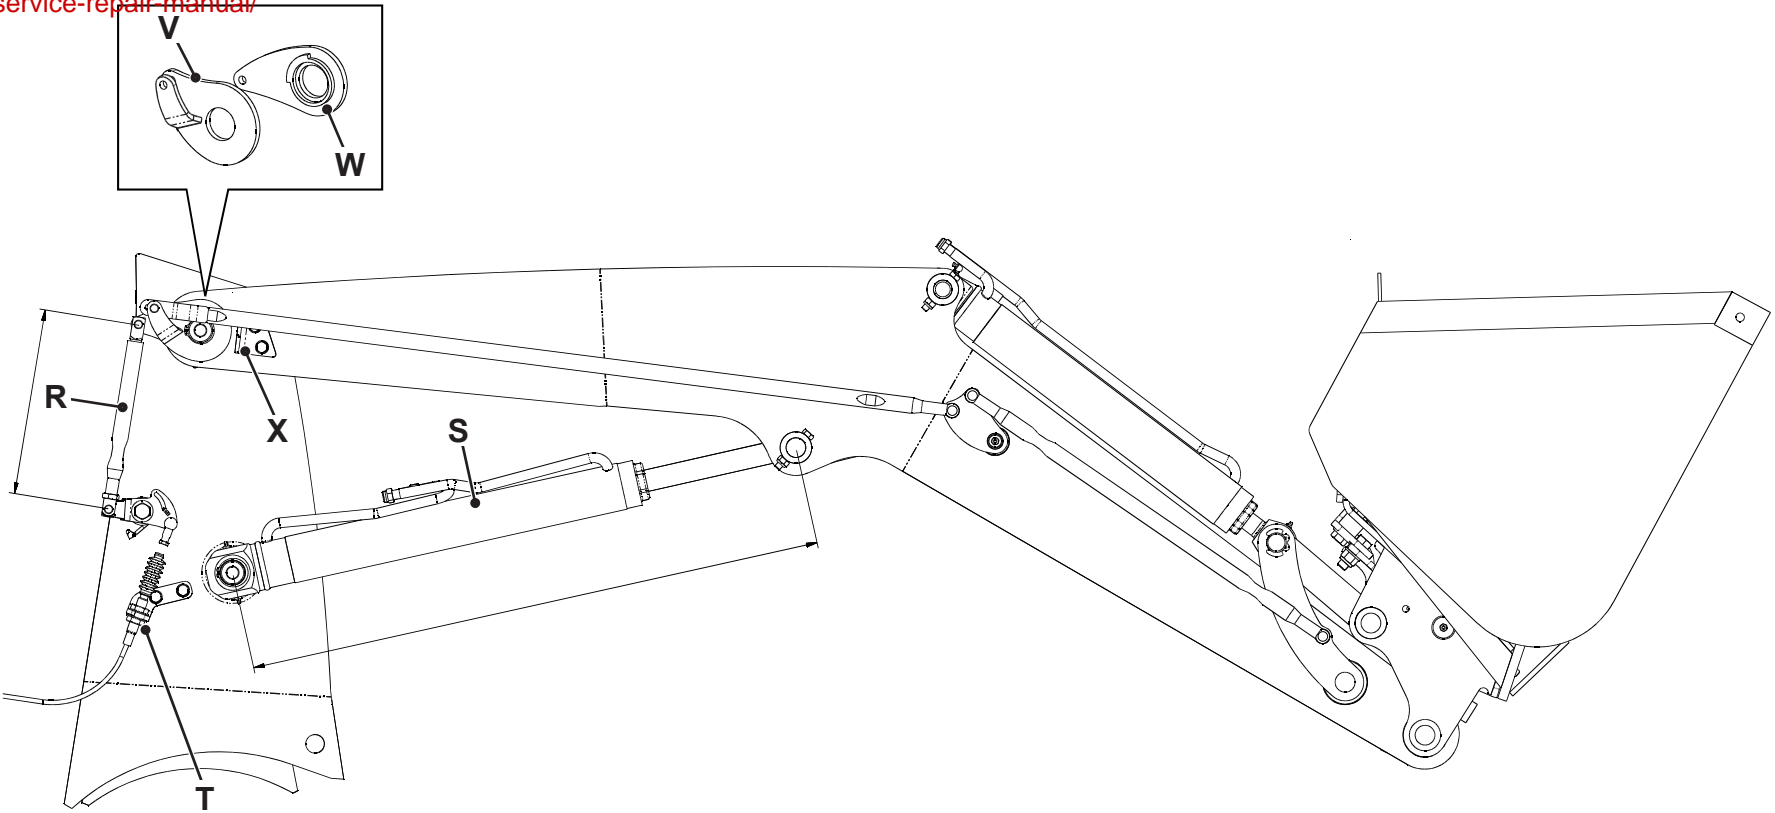

Fig 8. Shovel Setting Position
- 1 ⇒ Fig 8. \(□ D-12\). Measure the length of the reaction rod **R**. If necessary, adjust the length of the rod so that it is 305 - 315 mm (12.0 - 12.4 in) between hole centres as shown.